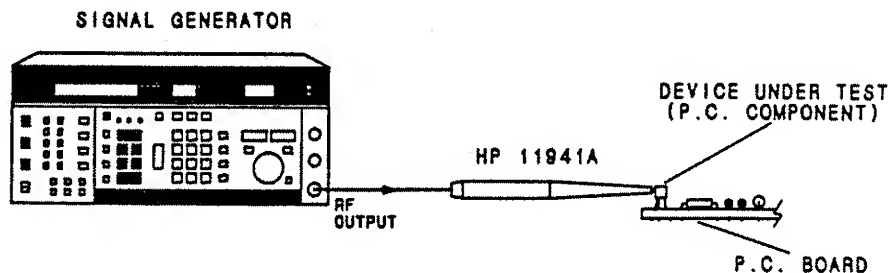

Figure 5. Localized Susceptibility Test Setup
**3-15. Localized Susceptibility Test Setup:** Used as a field source, the probe provides a magnetic field for susceptibility testing of electronic devices. The distance between the probe tip and the Device Under Test (DUT) should be less than 1 cm (0.394 in.). As the probe is moved closer to the DUT, the absolute magnetic field strength applied to the DUT approaches the calculated value produced at the probe tip. For broadband susceptibility testing, use the probe with a swept or tracking source. See figure 5 for an example of the basic localized susceptibility test setup.